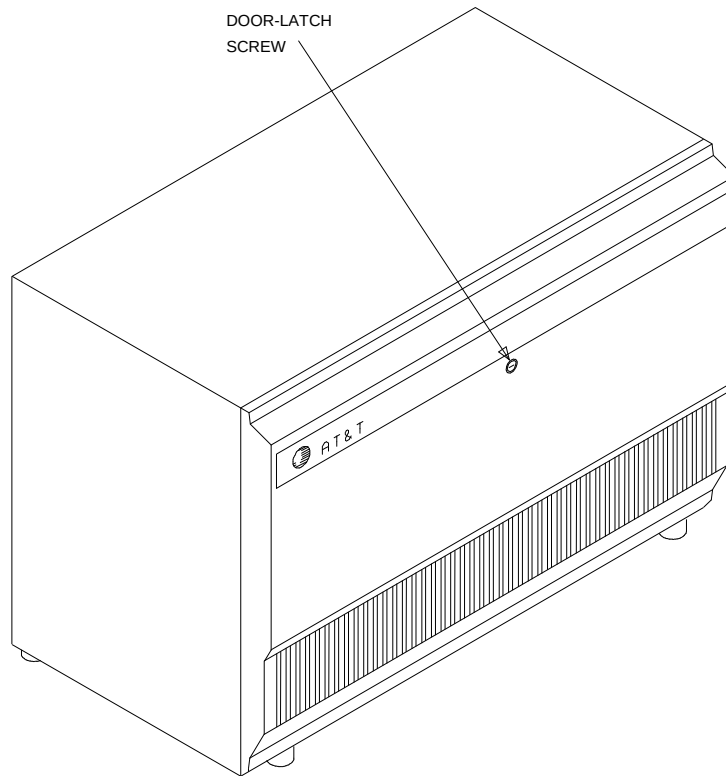

Figure 12-34. Location of Door-Latch Screw for DEFINTY ECS R5si Cabinet
1. Use a screwdriver and turn door-latch screw counterclockwise one quarter turn to release door (see Figure 12-34).